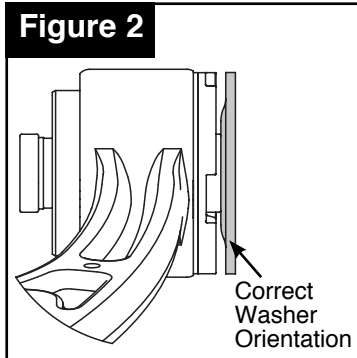

Figure 2
11. Install one supplied offset washer on OE arm-to-frame bolt. When installed, offset washer flange should be away from bushing flange, see Figure 2.
12. Install SPC control arm into vehicle using OE bolt. Place second supplied washer over protruding end of bolt. Again, be sure that offset washer flanges are installed away from bushing flange, see Figure 2. Install OE nut.